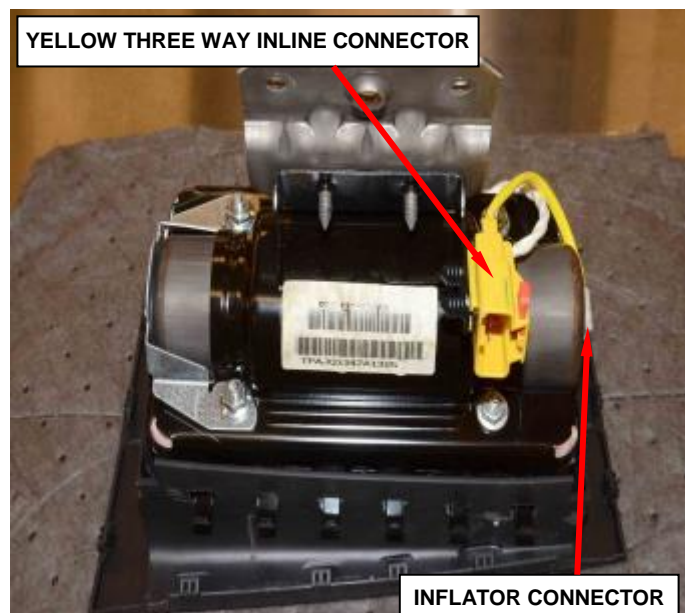

Figure 81 – Inflator Connectors
- c. Disconnect the single yellow wire inflator connector from the end of the inflator using pliers (Figure 81).
- d. Remove the yellow three way inline connector from the housing bracket (Figure 81).